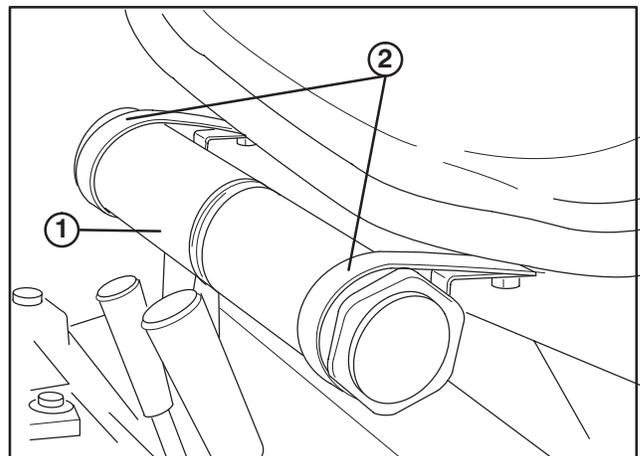

Figure 9
1. Loosely mount (2) R-clamps to outer holes in right side of seat with (2) capscrews and flatwashers (supplied with seat kit) (Fig. 9).
2. Install manual tube into R-clamps, insert manual into tube and thread cap into tube (Fig. 9). Tighten capscrews.